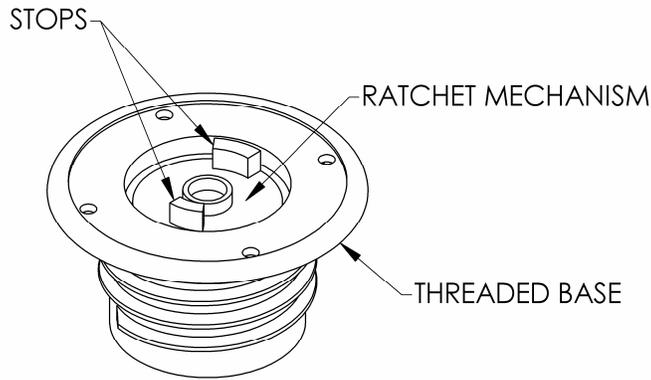

Figure 2
- 8) Place the threaded base into the gas cap. Rotate the base so that the two metal stops protruding out of the top of the ratchet mechanism, shown in Figure 2, fall somewhere